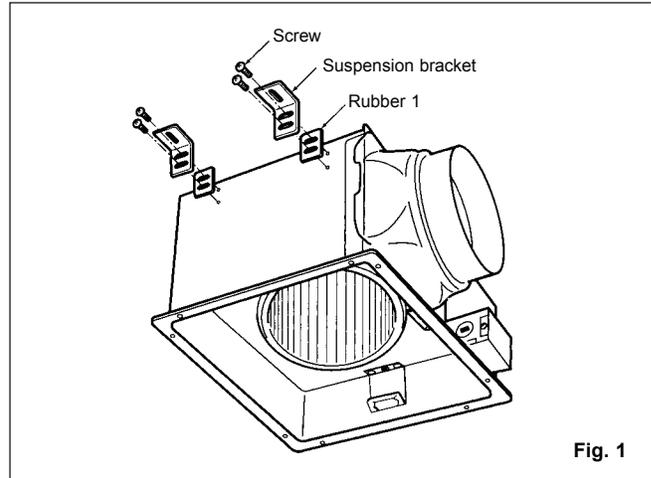

Fig. 1
2. Assemble suspension bracket and rubber 1 to body. (Fig. 1)